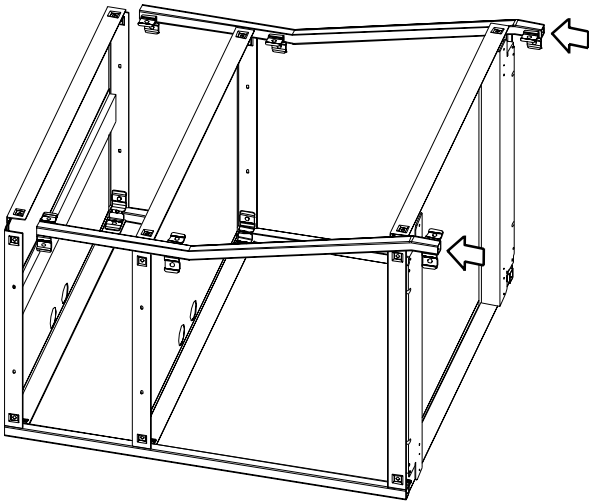

FIGURE 3
Slide the 2 front legs onto the shelves so that the brackets are inside the shelves as shown in **Figure 3**. Secure each corner of the shelves and legs together with two bolts (AA) and two nuts (BB) using the flat hex wrench as shown in **Figure 4**.